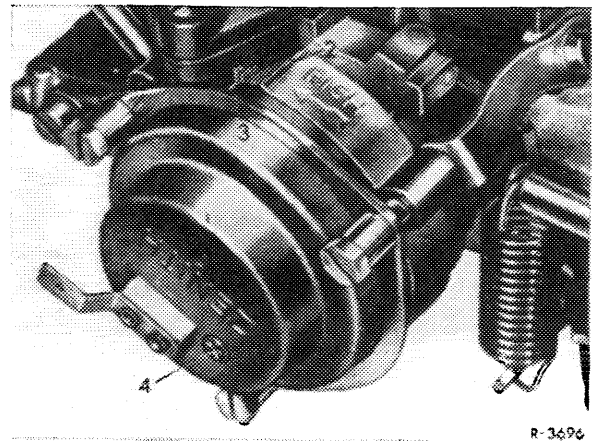

Fig. 07-4/9
Run engine. Slightly lift up throttle control linkage. On **one** carburetor, insert a screwdriver between automatic choke housing (1) and throttle lever (2) and push transmission arm (5) (Fig. 07-4/10) up to the stop that can be felt at the diaphragm rod (5). (Fig. 07-4/12). Release throttle control linkage.
- 2 At idle speed, adjust compression spring (11) with adjustment nut (10) to obtain an approx. clearance of 0.1 mm between adjustment screw (6) and actuating lever (8).